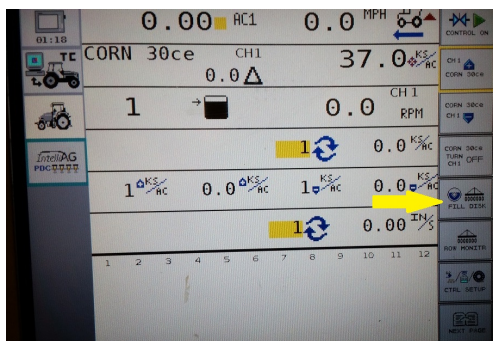

Figure 63
Step 4. With fan running and hydraulic drive hydraulics on, locate **Fill Disc** icon on VT and select. (Figure 63)